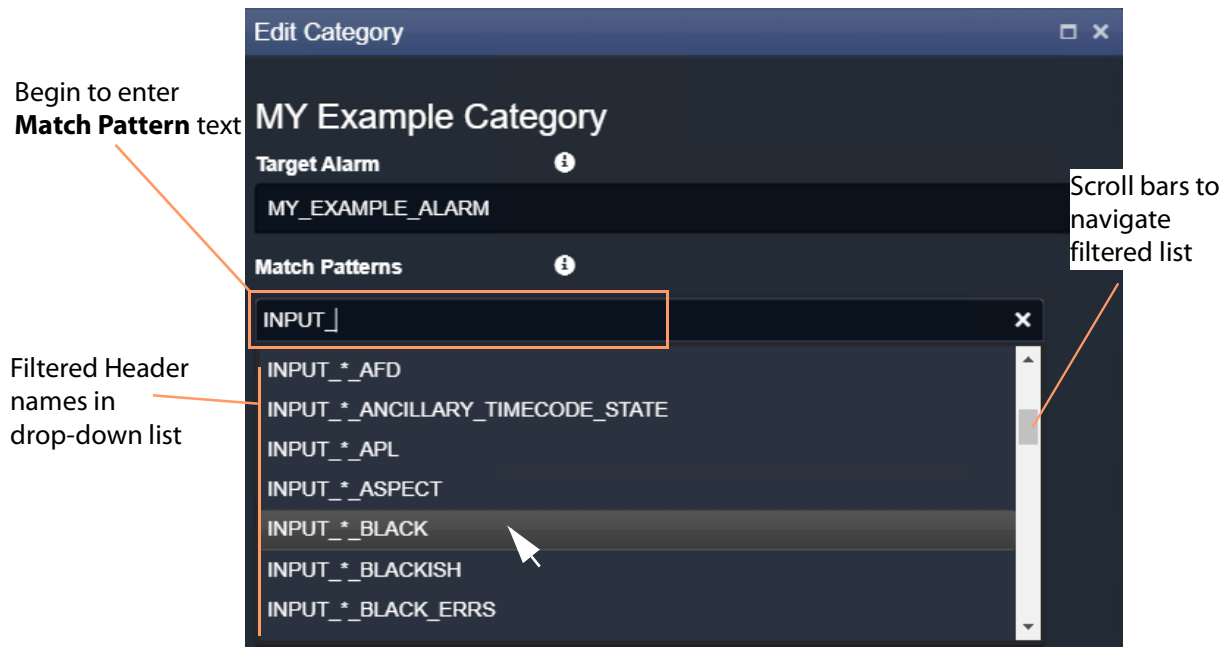

Figure 59: Select a Match Pattern From Drop-Down List
- 2 In the **Match Patterns** text box, begin entering a message Header **Match Pattern** text string. For example, "INPUT_". As the text string is entered, a drop-down list appears showing all the candidate message Header names filtered on the entered text. See Figure 59.